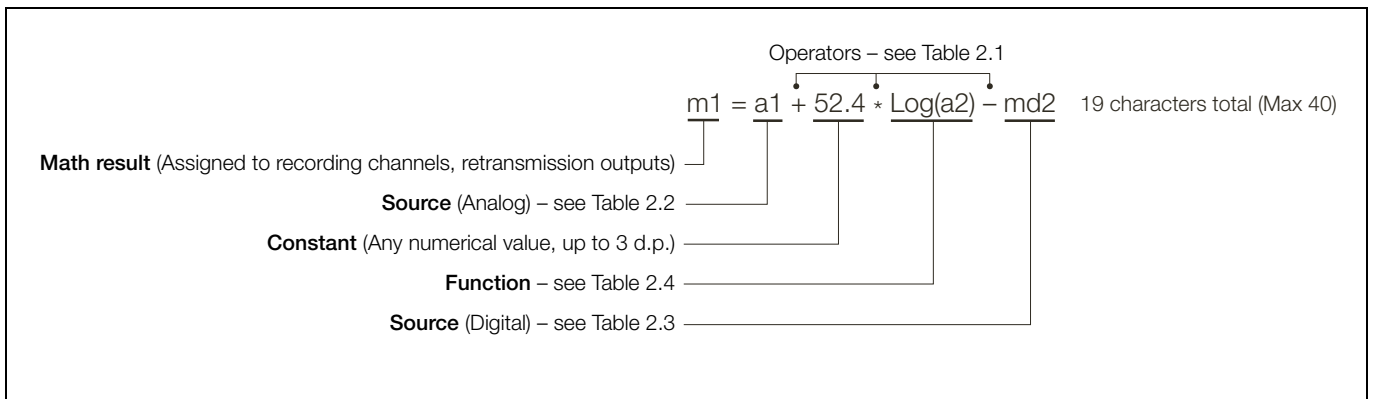

Fig. 2.1 Typical Math Block
2.2 Typical Math Block – Fig. 2.1
Each math block comprises any number of sources, constants, operators and functions, to a maximum length of 40 characters, – see Fig. 2.1, page 3.